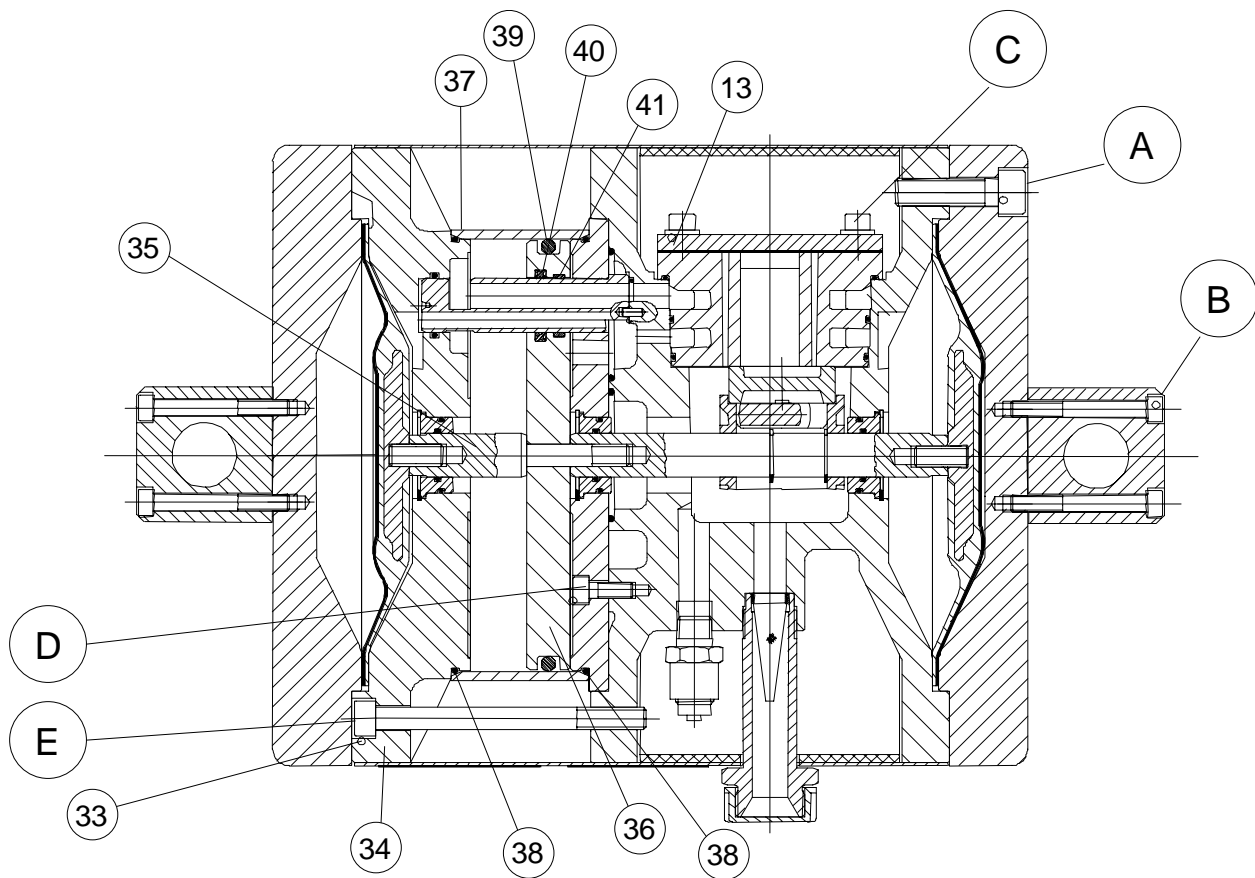

Figure 8
**Note:** Refer to Figure 5, "Servicing the Diaphragm Pump" on page 15 and, Figure 8, "Replacing the Air Piston Seals" on page 20 while performing the following procedures.
1. Using the 5 mm Allen wrench, remove the 16 socket head cap screws (1) that attach the inlet and outlet manifold assemblies to the pump.
3. Remove the felt filter (10).
4. Using the 4 mm Allen wrench, remove the two socket head cap screws (11) that clamp the ends of the sheet metal shroud together.
5. Using the 28 mm open-end wrench or an adjustable wrench, unscrew the main air supply fitting (12) and pull it through the shroud. Slide the shroud off the pump.
6. Using the 8 mm Allen wrench, remove the 16 socket head cap screws that hold the fluid covers (6) on the main body of the pump.
7. Push one of the diaphragms (3) to shift the main shaft (4) of the pump all the way to one side.
8. At the end of the pump with the extended diaphragm, use the 13 mm open-end wrench to keep the main shaft (4) from rotating. Loosen and remove the diaphragm by hand (rotate counter-clockwise).
9. Push the main shaft (4) all the way to the other side. Repeat step 8 to remove the remaining diaphragm.
10. Using the 8 mm Allen wrench, remove the four tie rod screws (33) that hold the diaphragm housing (34) to the center section of the pump.